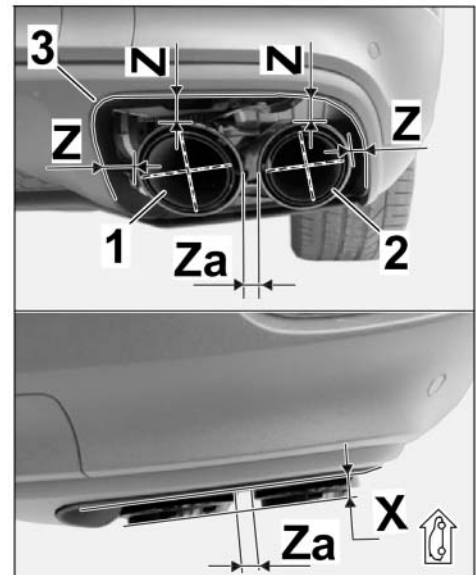

Figure 30
- $\Rightarrow$  *Figure 30-Z*: **Control value 21 mm +/- 1 mm**
- $\Rightarrow$  *Figure 30-Za*: **Control value 11 mm +/- 1 mm**